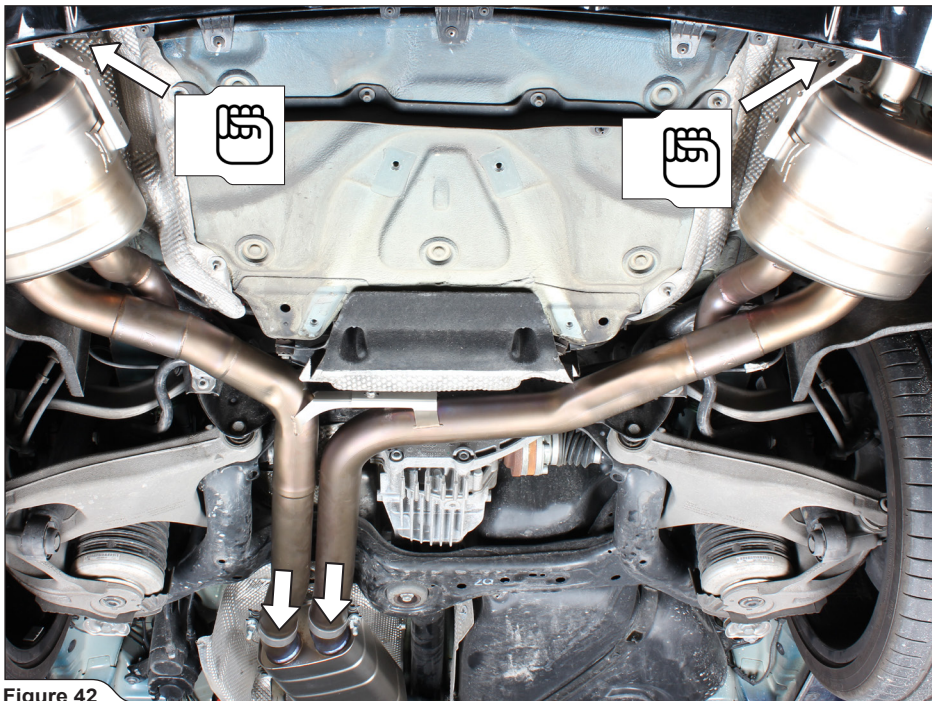

Figure 42
- Slide the mufflers simultaneously onto the collector and hand tighten the stock rubber brackets onto the chassis (Figure 42).